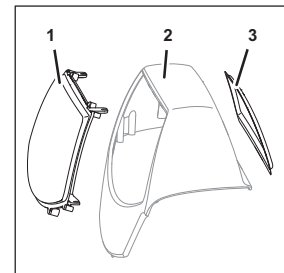

Fig. 31
8. Remove the front and rear promotional pane (Fig. 31/1 and 3) from the taxi cab hood (Fig. 31/2).
9. Remove the promotional sheet from the front and rear promotional pane (Fig. 31/1 and 3).
10. Position the new promotional sheet on the front and rear promotional pane (Fig. 31/1 and 3).
11. Position the front and rear promotional pane (Fig. 31/1 and 3) within the new taxi cab hood (Fig. 31/2).